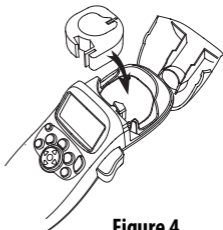

Figure 4
2. Insert the cassette with the label positioned between the print head and pinch roller. See Figure 4.